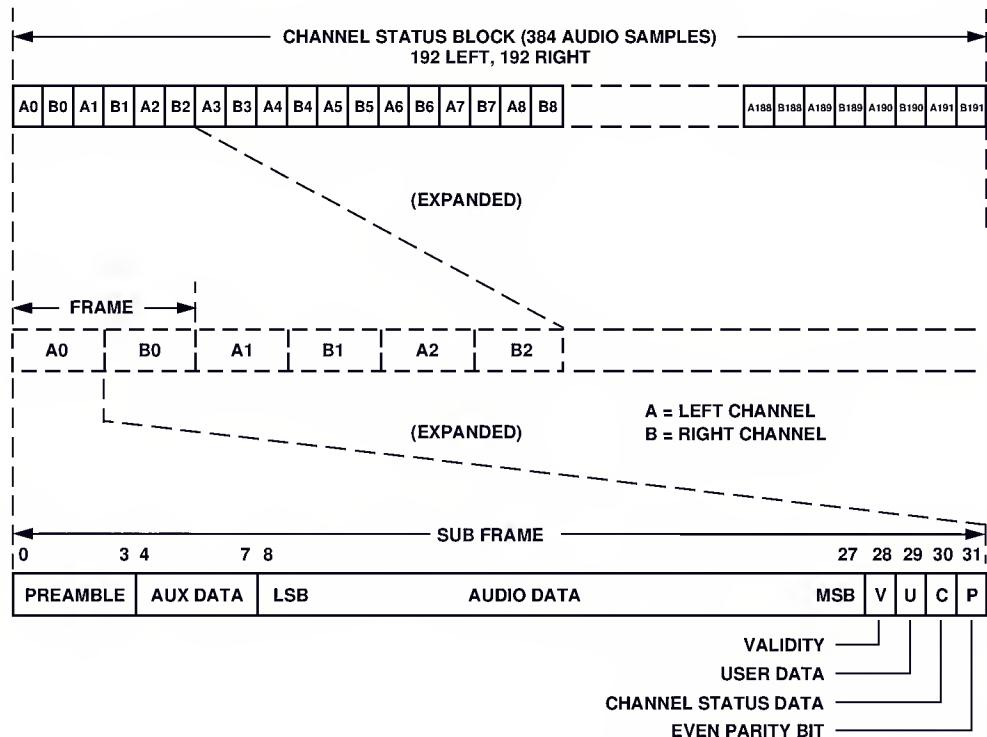

Figure 5. Block, Frame and Subframe Organization
As noted above, these serial digital audio communication schemes are organized using a frame and subframe construction. There are two subframes per frame (ordinarily the left and right channel). Each subframe includes the appropriate four bit preamble, four bits of "auxiliary" (aux) data, 20 bits of audio data (LSB first), a "validity" (V) bit, a "user" data (U) bit, a Channel Status bit, and an even parity (P) bit. The Channel Status bits and the user bits accumulate over many frames to convey control information. The Channel Status bits accumulate over a 192 frame period (called a Channel Status block). The user bits accumulate over 1176 frames when the interconnect is implementing the so-called "subcode" scheme (EIAJ CP-2401). The organization of the Channel Status block, frames and subframes is shown in Figure 5.